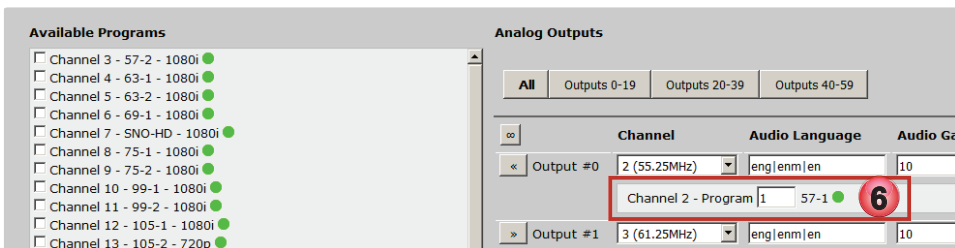

Figure 6-7: Selected Program Assigned
6. The assigned program is moved from the list to the channel's information box, Figure 6-7.